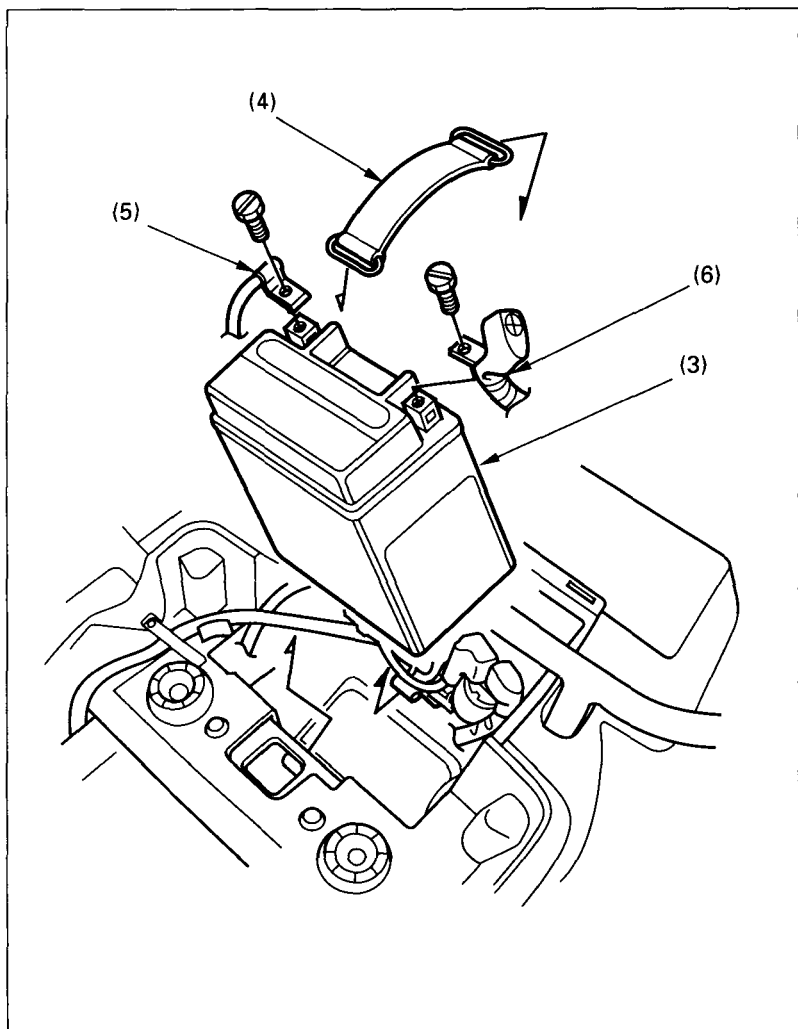

Fig. 4-18
4. Release the rings and remove the rubber band (4). (Fig.4-18)
5. Disconnect the negative (-) terminal lead (5) from the battery (3) first, then disconnect the positive (+) terminal lead (6).